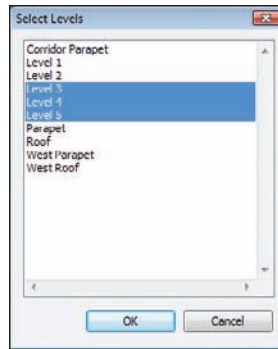

FIGURE 6.31 Selecting the levels where you want the slab to be copied.
5. The Select Levels dialog appears, where you will choose which levels you want to paste your floor. Choose Levels 3, 4, and 5, as shown in Figure 6.31.